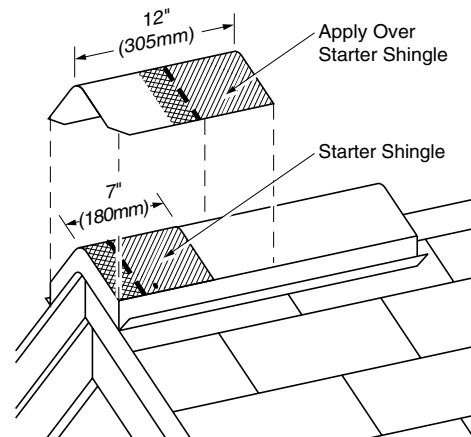

Figure 15-15: Apply a full cap shingle over the starter piece, flush with the bottom and side edges of the starter.
2. Install caps beginning at the bottom of a hip or at either end of a ridge. Apply a starter piece that has the bottom 5" removed (Figure 15-15). Fasten the starter with two nails located about 3" from the rake edge, and 1" in from each side edge. Make sure fasteners used to apply caps are at least 1 3/4" long and able to penetrate at least 3/4" into or through the decking.
3. Apply a full cap shingle over the starter (Figure 15-15), and place fasteners at 5 5/8" up from the exposed bottom edge and 1" in from each side. Nails must not be exposed on the finished roof. All nail heads must be driven straight and must not cut into the shingle surface.